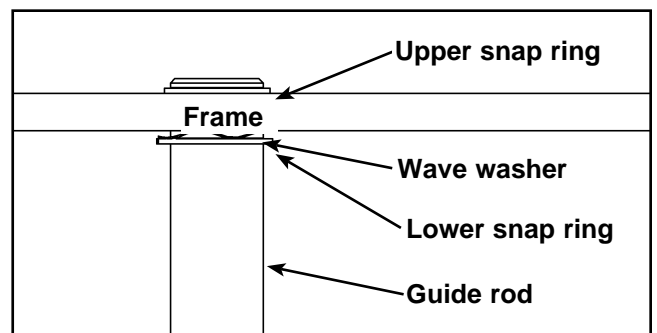

Figure 5
C. Using an external snap ring pliers, remove the upper snap ring from one of the guide rods and carefully lower the guide rod. See Figure 5.